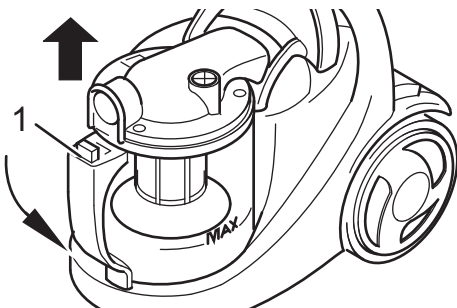

Fig.18
2. Turn the dust container (Fig. 18/1) to the left a bit to unlock it.